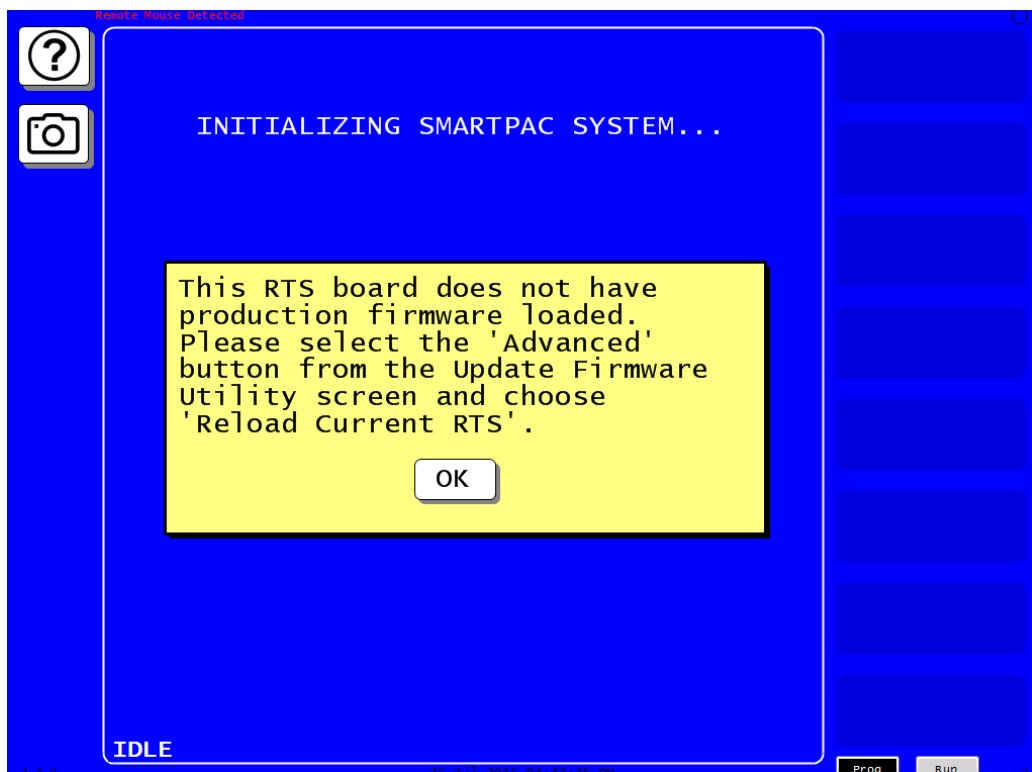

Figure 2
16. When the SmartPAC PRO finishes powering up after about a minute, you will see the screen in Figure 2 below. Select the OK button (If this screen does not come up, cycle power and try again).
If the screen in Figure 2 does not come up and instead you get the fault message below, it means that the SmartPAC PRO Main firmware is too low and needs to be updated to a minimum of V3.75. Select OK and contact Wintriss Tech Support 800-586-8324 option 2 for assistance.